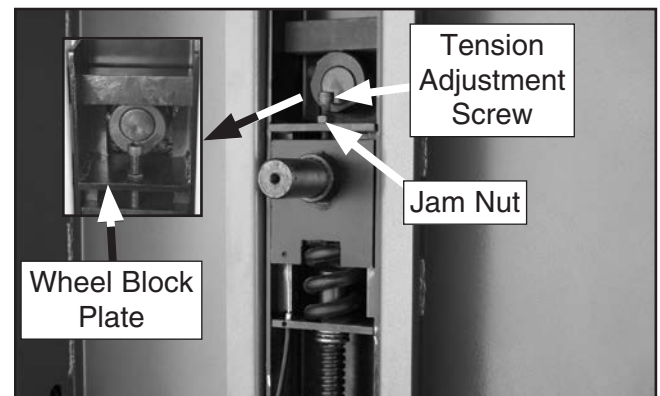

Figure 96. Example of quick-release tension lever adjustment screw.
3. Loosen the jam nut on the tension adjustment screw 7-10 turns (see **Figure 96**).
5. Thread the tension adjustment screw (see **Figure 96**) down until it contacts the wheel block plate, then back it off 1-2 turns.